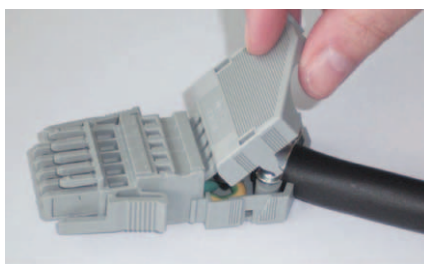

Fig. 80: Closing the strain relief housing
- Close the strain relief housing by pressing the top piece of the housing onto the bottom piece from above (fig. 80).